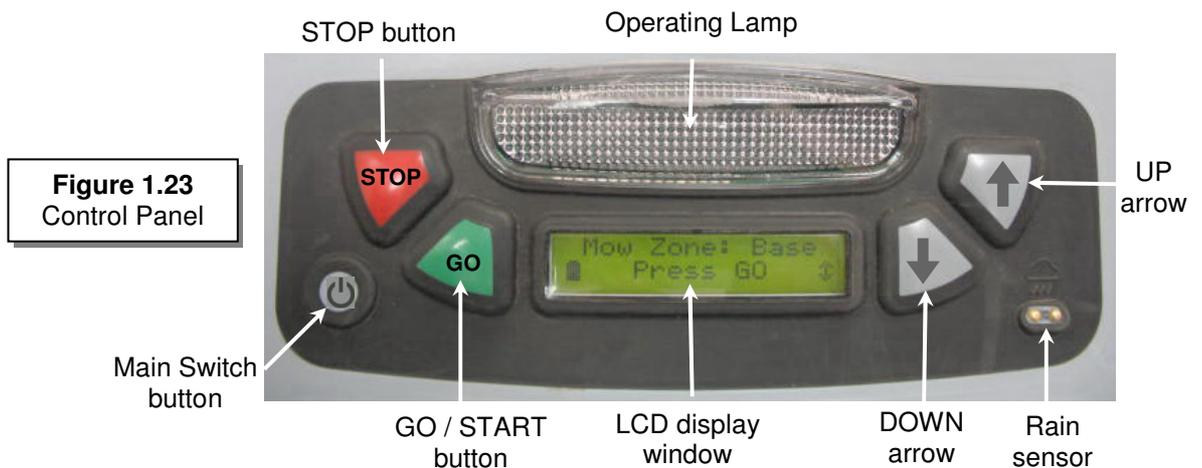

Figure 1.23
- On the top of the rear side of Robomow there is a control panel. The control panel consists of a display, keypad and operating lamp (figure 1.23).